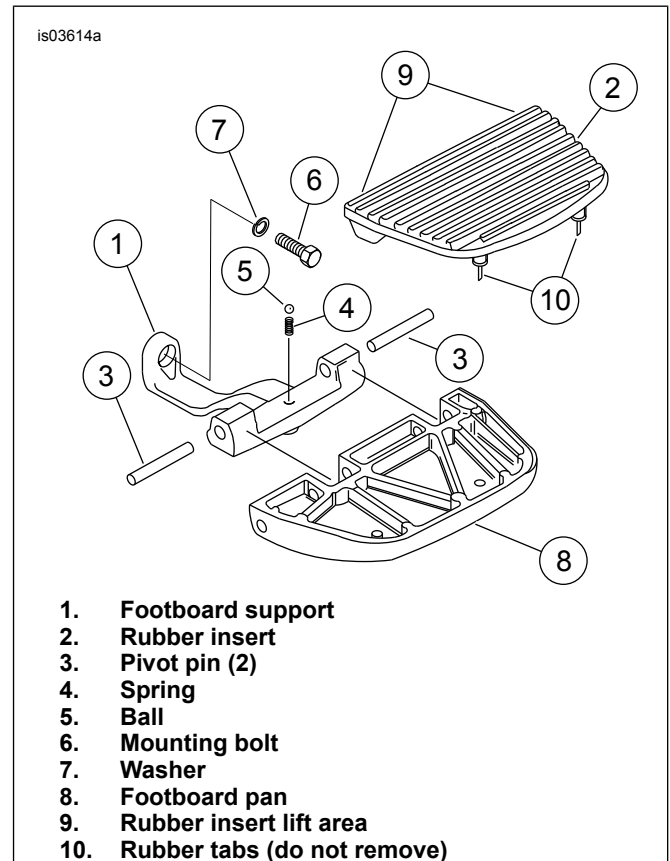

Figure 1. Stock Footboard Mounting
2. See Figure 1. Remove footboard (8) from footboard supports by carefully lifting up the inside corners of the rubber footboard insert (9) to expose the pivot pins. Do not remove the footboard insert from the footboard pan as it can be difficult to install.
3. Remove pivot pins (3) by pushing pins toward the outside of the footboard until the footboard is free of the mounting lugs. Be aware that the springs (4) and balls (5) may fall out when the footboard pan is removed.
4. Remove the springs (4) and balls (5). Save for installation.